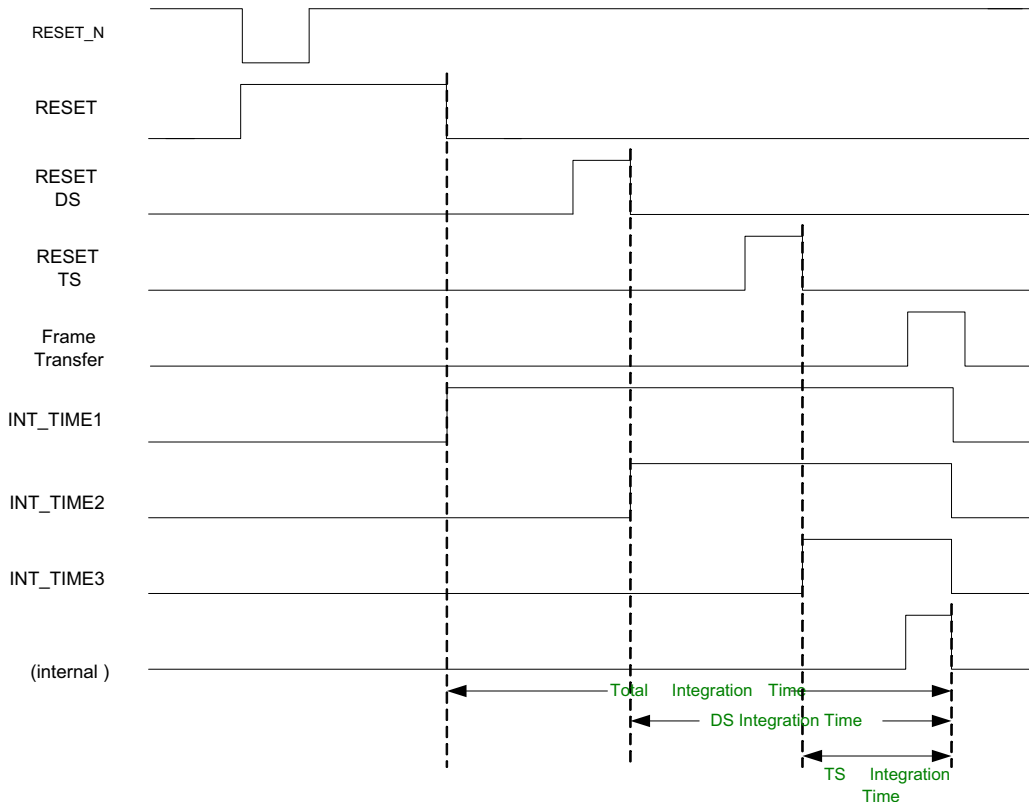

**Figure 15. Integration Timing in Master Mode**
In mastermode the integration time, the dual slope (DS) integration time, and triple slope (TS) integration time are set by the SPI settings. Figure 15 shows the integration timing and the relationship with the SPI registers. The timing concerning integration is expressed in number of lines read out. The timing is controlled by four SPI registers which need to be uploaded with the desired number of lines. This number is then compared with the line counter that keeps track of the number of lines that is read out.
The length of the integration time, the DS integration time and the TS integration time are indicated by 3 output pins: **INT\_TIME\_1**, **INT\_TIME\_2** and **INT\_TIME\_3**. These outputs are high during the actual integration time. This is from the falling edge of the corresponding reset pulse to the falling edge of the internal pixel sample. Figure 16 illustrates this. The internal pixel sample rises at the moment defined by **FT\_TIMER** (see Figure 15) and the length of the pulse is  $4 * (12 * (GRAN < 1:0 > + 1) + 2)$ .